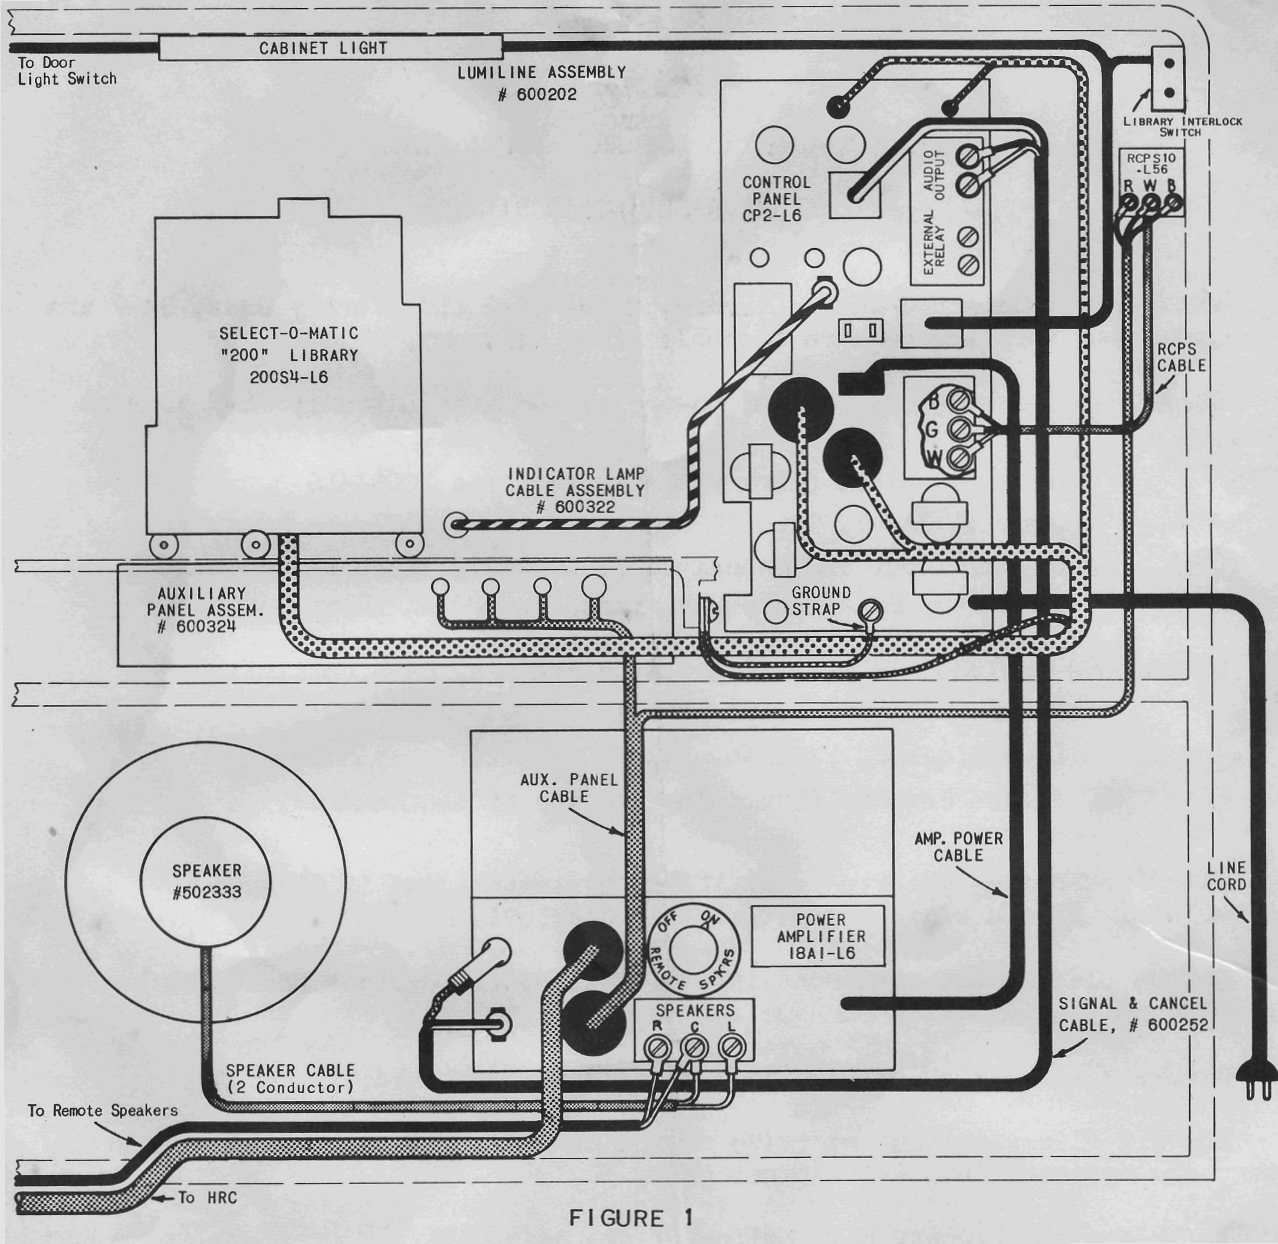

FIGURE 1
4. Interconnecting cables are attached as follows: (see Fig. 1)